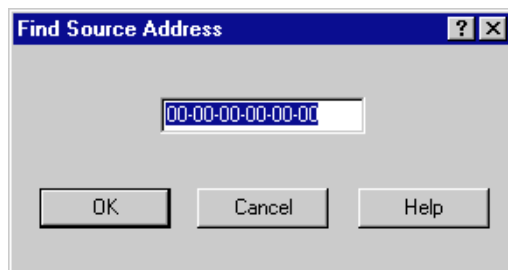

Figure 2-13. The Find Source Address Window
2. Click on **Find Source Address**; the Find Source Address window, as shown in Figure 2-13, will appear.